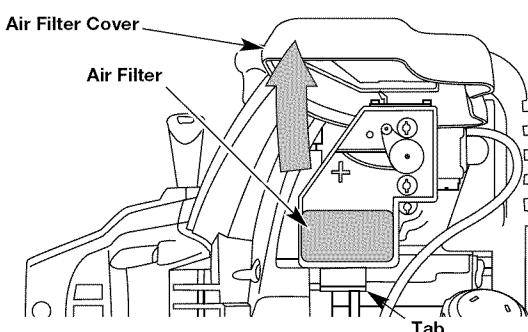

Fig. 26
1. Open the air filter cover. Push the tab on the under side of the cover inward. Then pull the air filter cover out and up. (Fig. 26).
2. Remove the air filter (Fig. 26).
6. Replace the filter (Fig. 26).